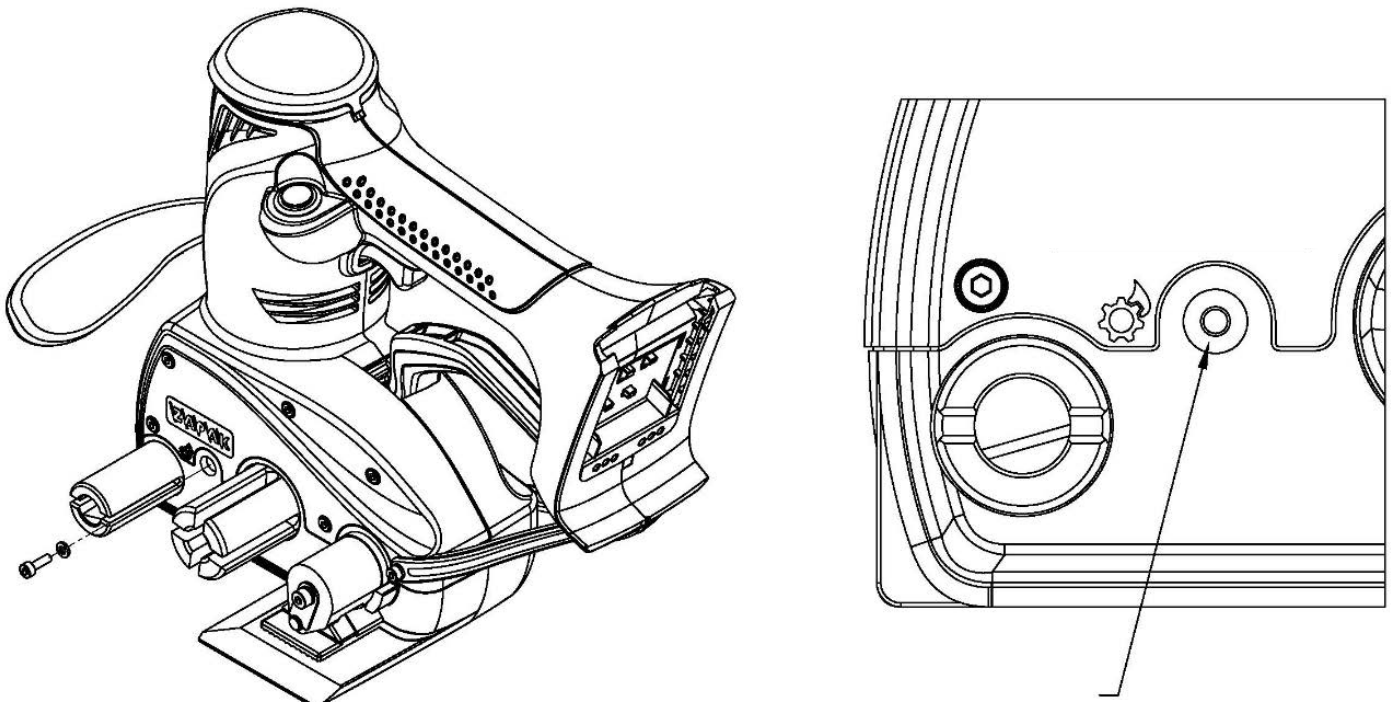

FIGURE 17. MAINTENANCE OF LUBRICANT REFILL
- When refilling lubricant, remove the Hex Screw (M3x1.0mm) and M3 washer next to the symbol of Lubricant Refill, insert the tip of the lubricant tube into the filling hole and squeeze the whole tube of lubricant into the hole completely, then fix back the M3 washer and Hex Screw as (FIGURE 17) shown.